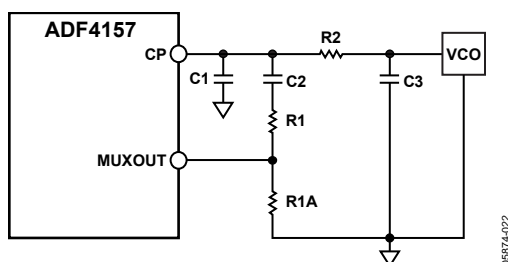

Figure 22. Fast Lock Loop Filter Topology—Topology 1
- Divide the damping resistor (R1) into two values (R1 and R1A) that have a ratio of 1:3 (see Figure 22).